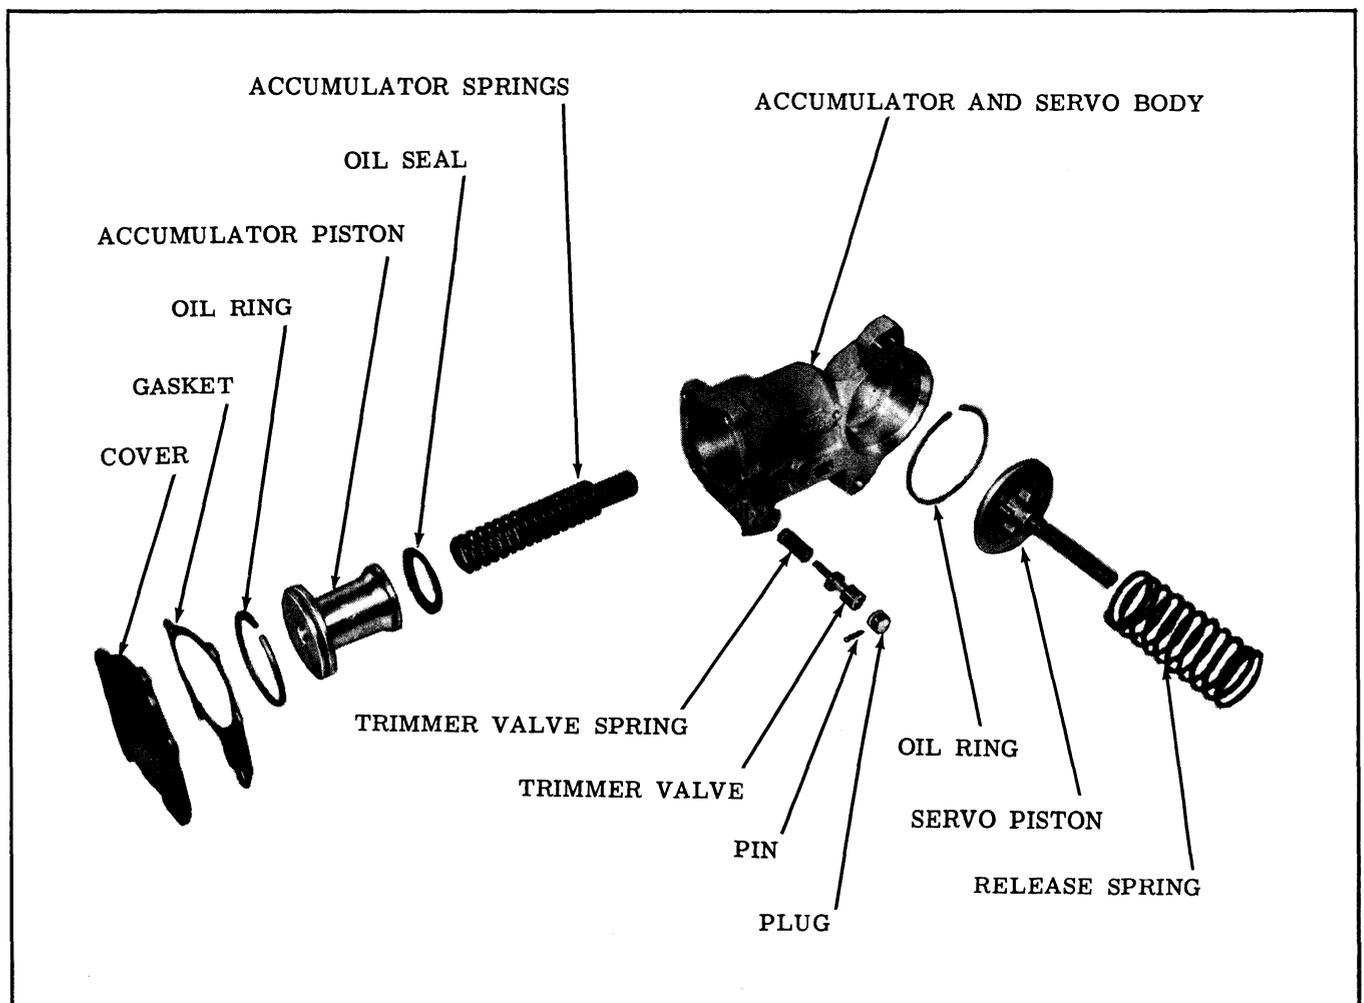

Fig. 3-114 Accumulator and Servo
6. Push on the trimmer valve plug to relieve the spring tension. Then remove the spring tension. (See Fig. 3-114)